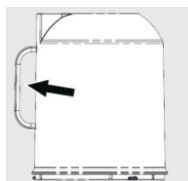

Figure 17
4. Throw the garbage out of the dust container into the trash can, holding it by the handle (Figure 17).